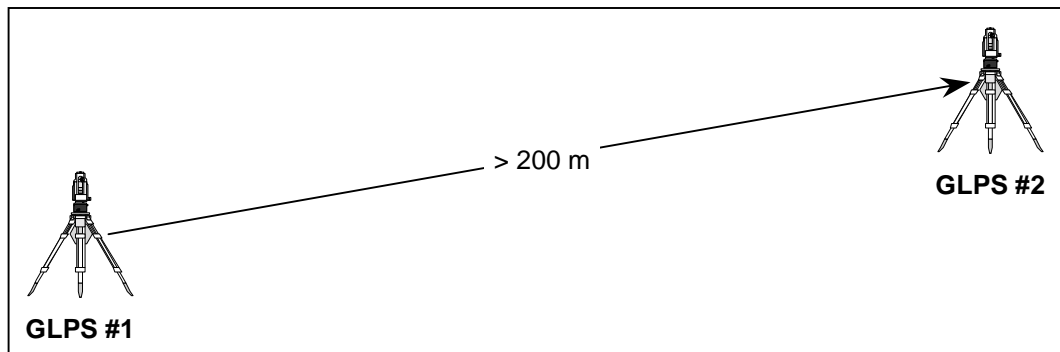

Figure 3-2. Setup for Verification Without SCP
- (1) Set up (2) GLPS as shown in Figure 3-2, following the procedures in paragraph 2-2 of this manual, making sure that the distance between the systems is greater than 200 meters. Using the plumb bob assembly, mark the center of the OS, at each GLPS.
- (2) Position GLPS using PLGR or Back Polar Plot, following the procedures in paragraph 2-4.1.a of this manual.
- (3) Enter the Lay by Azimuth menu, sight on the target rod of the distant instrument, range it, and record the coordinates of the distant instrument (i.e. easting, northing, and elevation).
- (4) Use each instrument to verify the position information of the other. Readings should be within ± 10 meters in northing, easting, and altitude. If not, repeat the process.